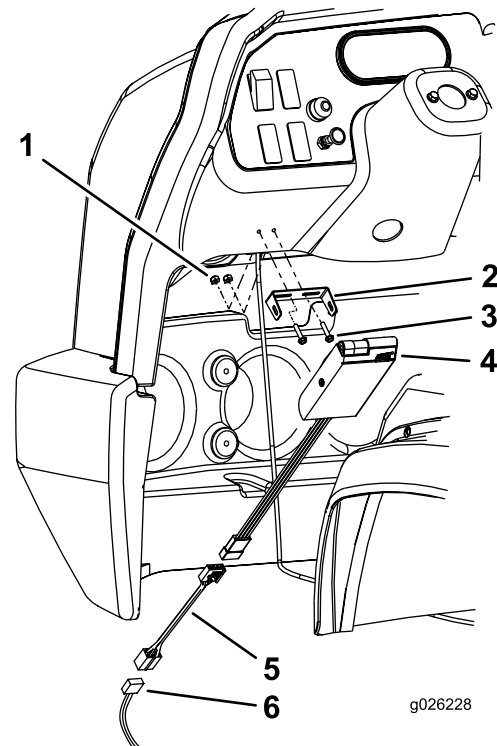

Figure 1
1. Using the controller bracket as a template, locate, mark, and drill two 3/16 inch diameter holes in the center of the flat part of the dash to the left side of steering wheel as shown in (Figure 1).
2. Mount the brake controller to the dash panel with the 2 screws (10-24 x 7/8 inch) and locknuts provided (Figure 1).